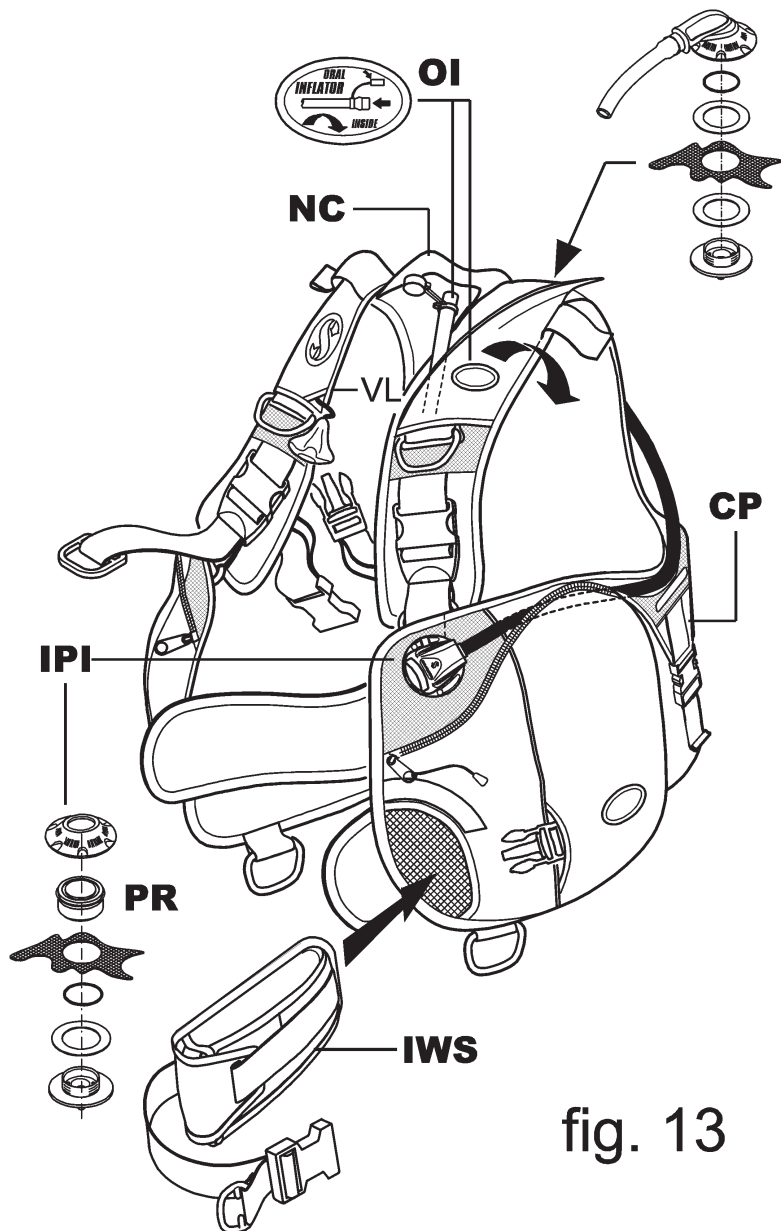

fig. 13
- the new IPI (Integrated Power Inflation) (fig.13 – IPI) that means no pull dump, corrugated hose/BPI system : the left shoulder/lobe side is free from any hose hanging around (the IPI / LP hose passes under the arm), and an oral inflator tube is hidden with a pad fixed with velcro (fig. 13 - OI).
- The second unique feature is that, thanks to the modularity of the valves, it is possible to come back to the corrugate, BPI system, by simply plugging the IPI hole with the specific plug/ring (fig. 13 – PR) and connecting the corrugated hose/elbow on the left shoulder, in place of the said oral inflator connection.
- The integrated weight system is the one with the standard buckle pockets (fig.5 – paragraph 4) combined with two back pockets for counter weights (paragraph 4) (fig. 13 – CP).
- Soft neck (fig. 13 - NC).